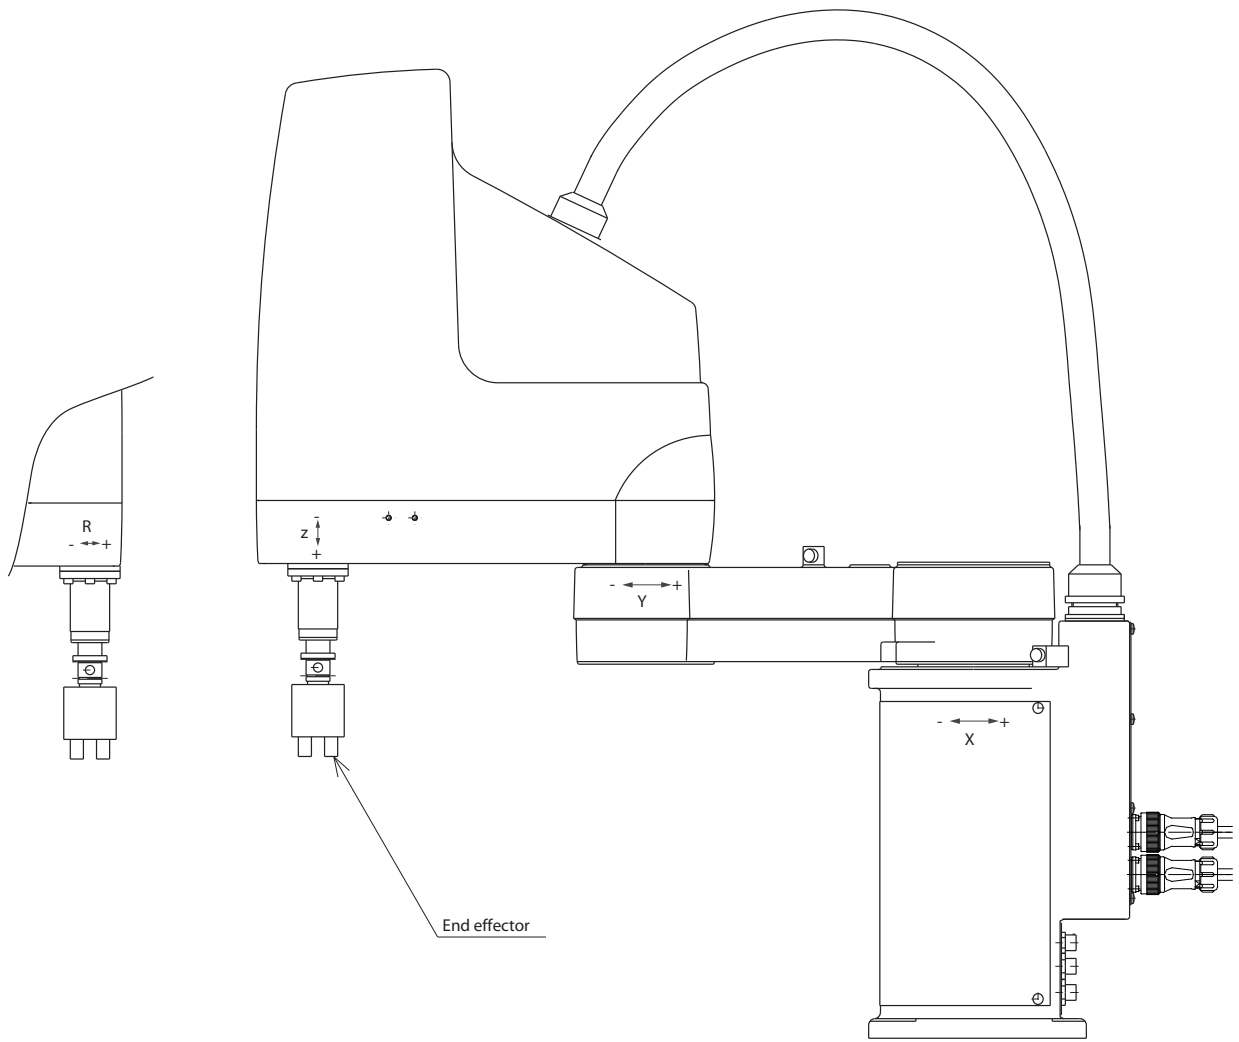

Fig. 4-13 Positions for affixing the stickers
- 6) Being careful not to move the origin positions, attach stickers at conspicuous points on matching sides of components such as the robot arm of each axis, base (robot pedestal) and end effector. Affix stickers nearby showing the axis name and direction of movement. Use a cloth moistened with alcohol to remove grease from the surface where you will affix the stickers. After the surface is dry, affix the stickers securely. (See Fig. 4-13)